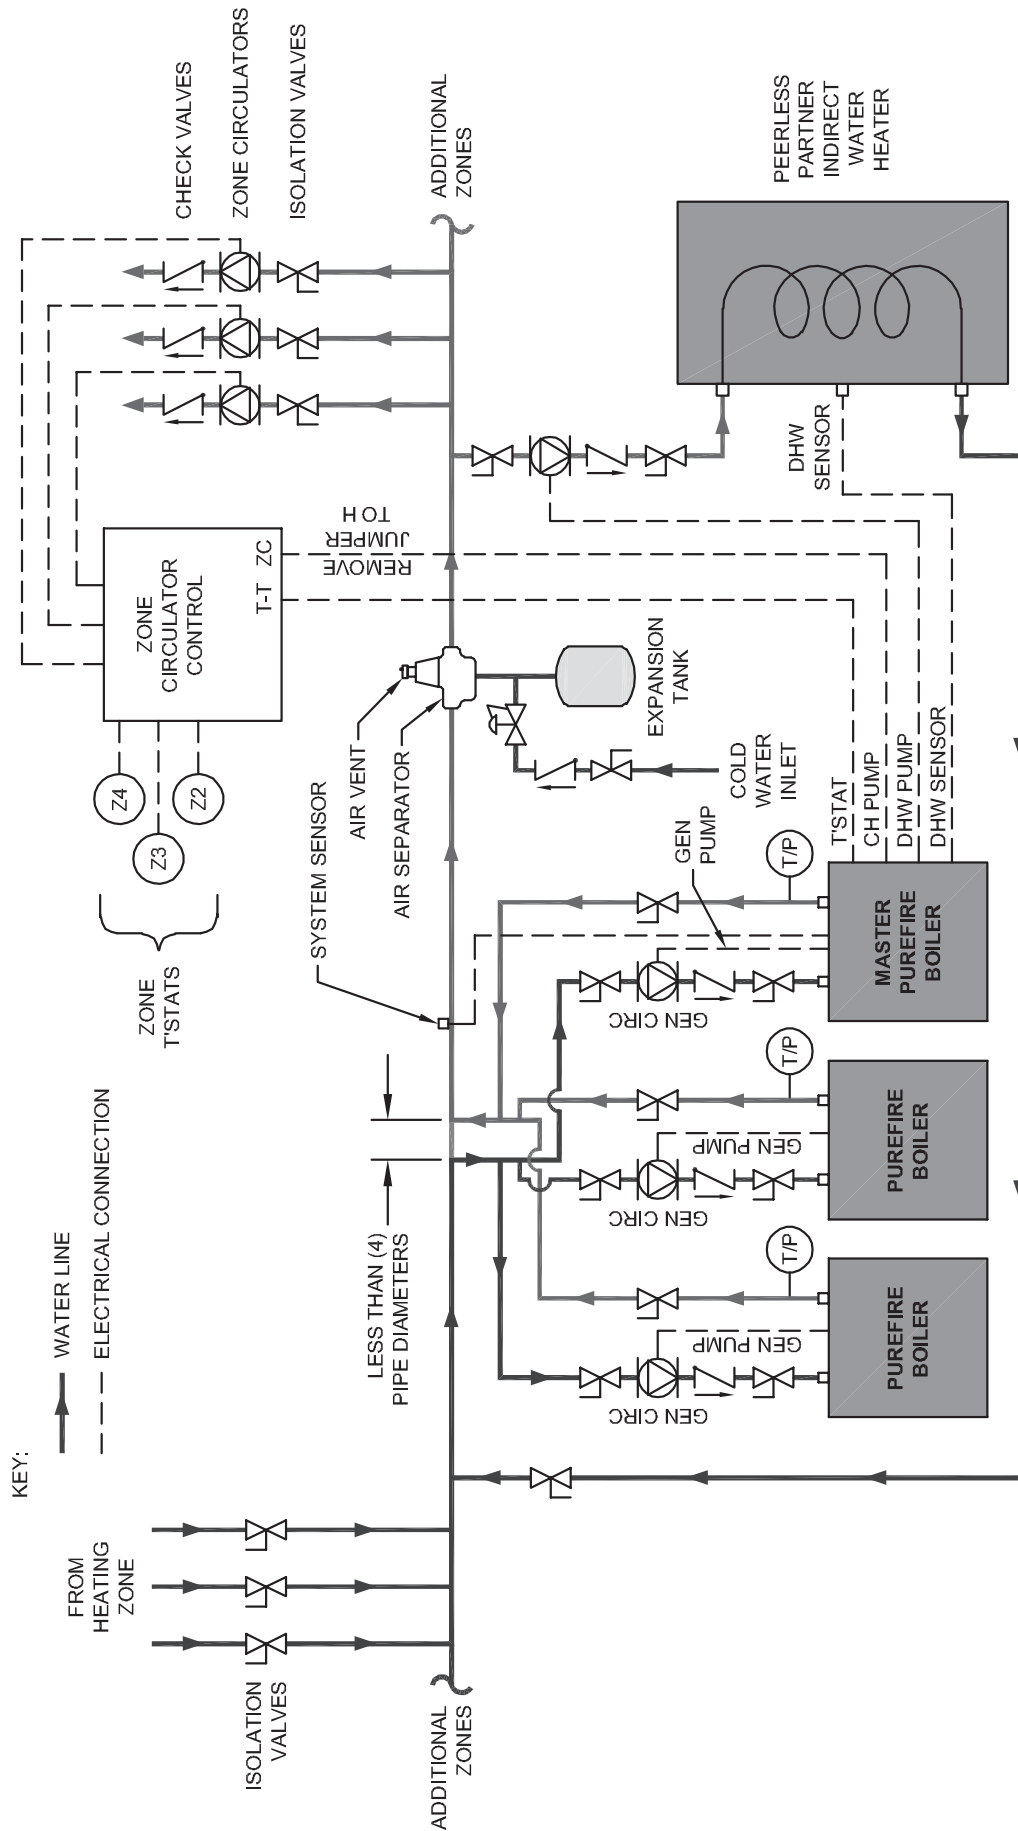

Figure 8.6: Multiple Boiler (Cascade) Piping / Electrical Connections for Systems with Zone Circulators
- Figure 8.6 shows a typical system which uses a circulator zone control panel to control the central heating zones.
To cascade PF-50 and PF-80 models, check that the display sub-base has the cascade link as illustrated in Figure 8.6.